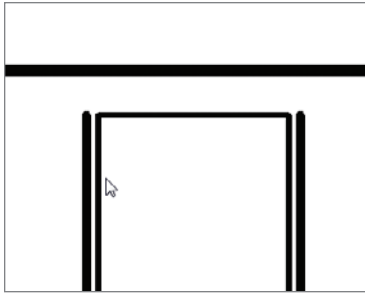

FIGURE 12.66 Offsetting the heavy lines $3/8"$ to the right and to the left
7. Offset the left and the right lines, as shown in Figure 12.66.